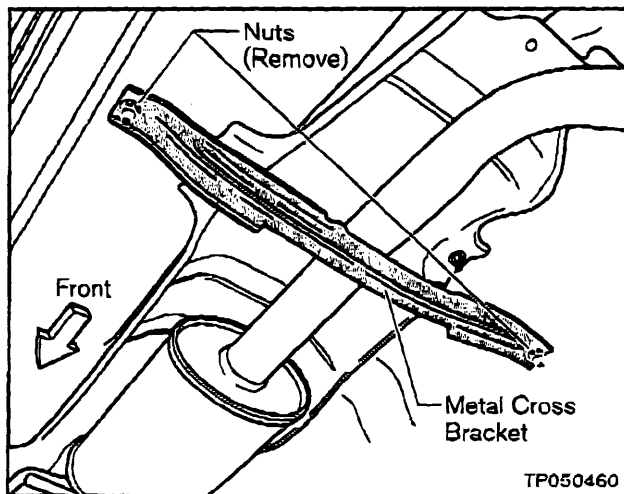

Figure 6a
- c. Remove two Nuts and remove the Metal Cross Bracket (see Figure 6a).